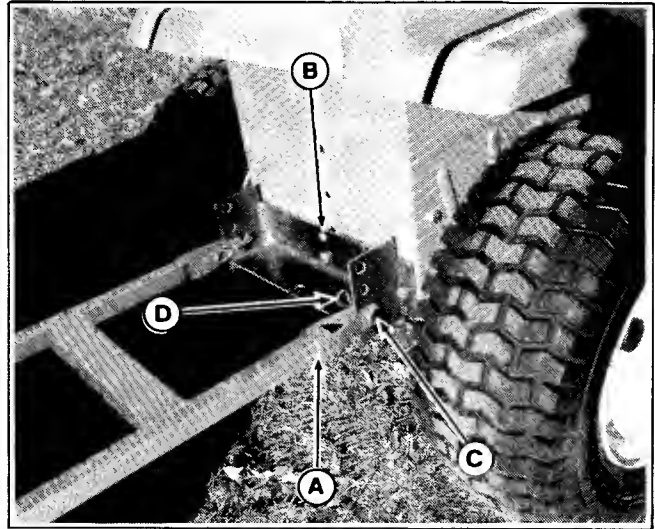

Figure 20. Lawn Tractor
1. Attach the cart to the tractor by aligning the two ends (A, figure 20 or 21) of the H-frame to the holes in the bracket (B). Secure the cart to the bracket with two clevis pins (C) and spring clips (D).